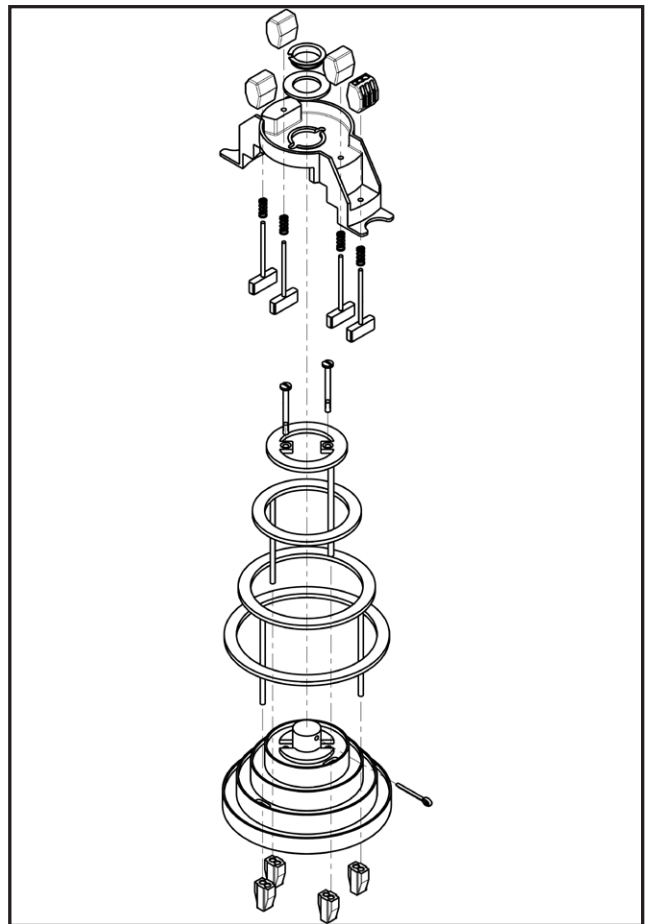

Figure 15-1
1. Remove the 4 screws securing the outer flange. Remove outer flange and gasket from remaining assembly. Remove or unwrap the cable from the drum and lay it next to the reel. See **Figure 15-1**.
4. Remove the brush block from the slip ring by removing the cotter pin and washer at the top of the slip ring assembly. Remove the 2 screws securing the slip ring to the shaft. See **Figure 15-1**.